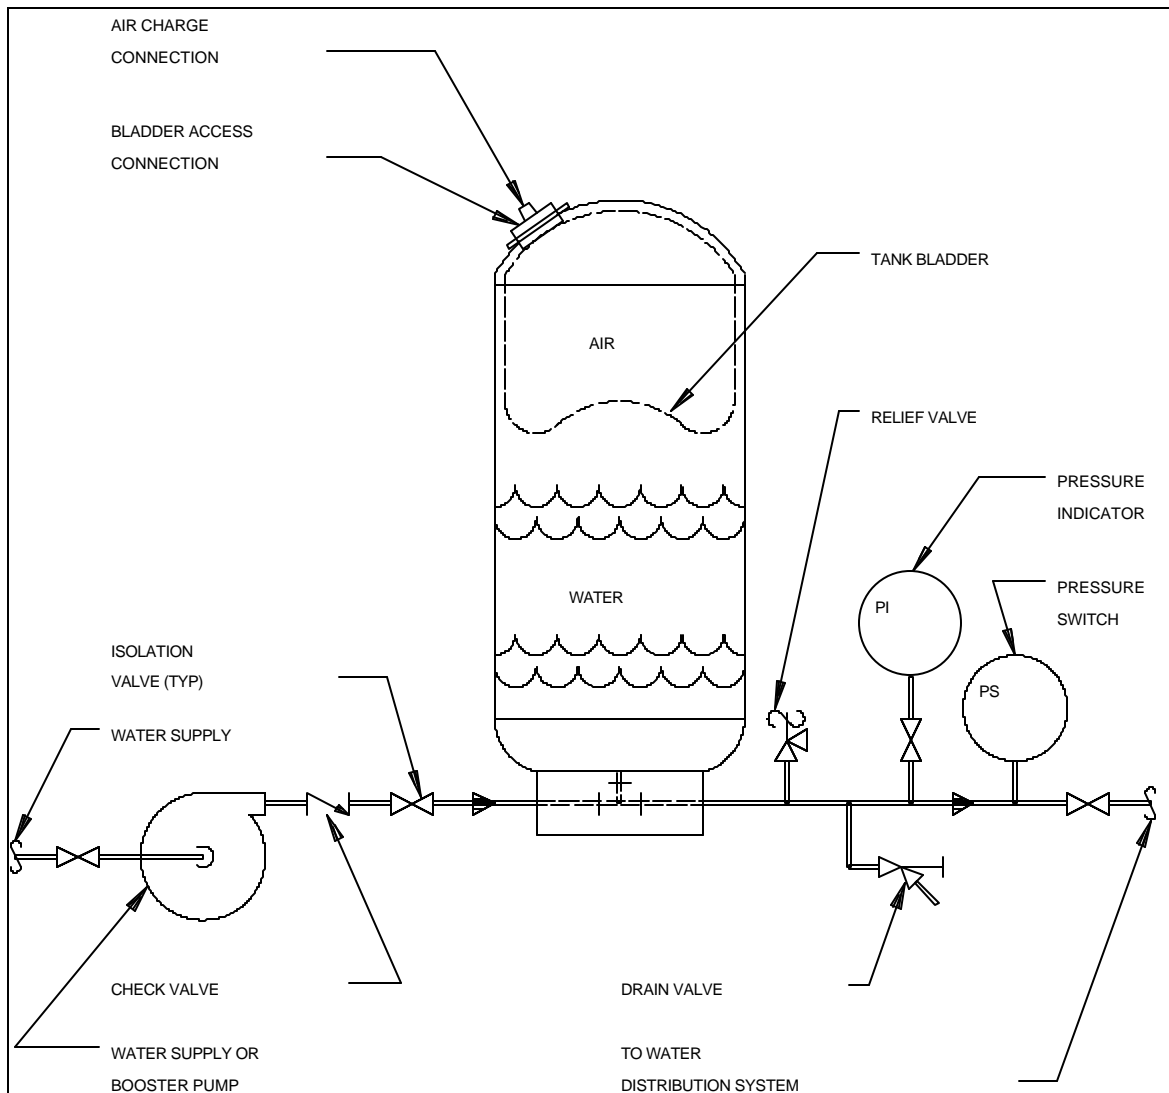

Figure 12-2. Bladder tank installation
(1) The discussion will focus on two types of aboveground tanks: ground-mounted and elevated. The elevated storage tank is used in flat-land areas where the terrain does not offer the advantage of a high point near the water use point in which a ground-mounted tank could be located. The elevated storage tank consists of a tank (usually steel), structural support legs, and water standpipe. The ground-mounted tanks are also usually constructed of steel, and are typically mounted on a concrete foundation. The pump and piping arrangement serving the storage tanks is dependent on the tank elevation. If the tank is well above the water use point (60 to 100 feet), the water supply is pumped into the tank to maintain a certain water level, and the tank is not pressurized. The water pressure at the use point is equivalent to the water elevation in the tank (100 feet = 43 psig). If the water storage tank is at or near the same elevation of the use point, the tank is usually pressurized if it is used as a constant water supply system. If the tank is used for emergency purposes only, it may have pumps on the discharge and then would not be pressurized.
(2) Reservoirs are typically underground concrete water storage structures. Typically the reservoir is not pressurized and is fed from a private or public water system, or in some cases may be spring fed. It is common for pumps to draw from the reservoir and pump into the pressurized water system at a facility. Reservoirs typically have an access for maintenance personnel and a vent to prevent pressure buildup.
(3) Bladder tanks, also referred to as hydropneumatic tanks, consist of a steel tank that is divided into an air section and a water section by a rubber bladder. The air section is charged with air to a pressure equivalent to the minimum desired pressure in the water supply system. A bladder tank is commonly installed on a private water supply system to provide some storage capacity and to act as a buffer for the supply pumps (figure 12-2). Typically, one third of the total tank capacity is available for storage (a 200 gallon tank would result in 70 gallons of useful storage).